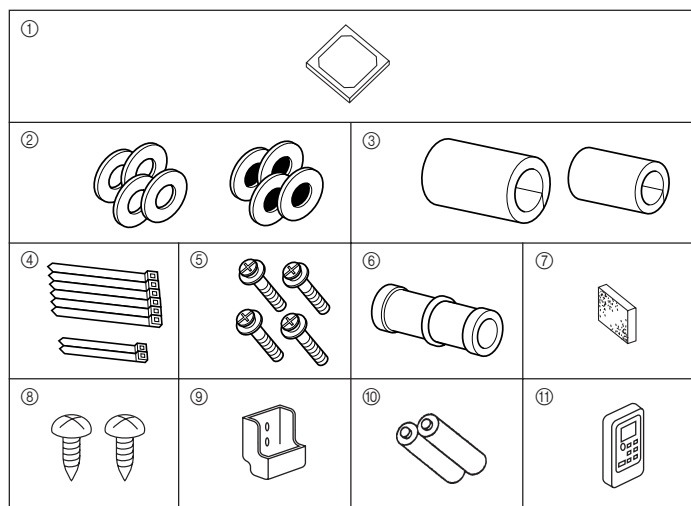

Fig. 4-1
4.1. Check the indoor unit accessories (Fig. 4-1)